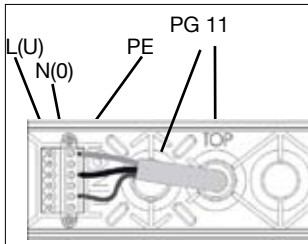

Fig. 5
After fixing the quick mounting plate in accordance with the respective instructions, the mains connection (L (U), N (0), PE) is to be established (fig. 5). Pay attention to a tight fit of the terminal screws! Unused cable entries are left with their locking plug fitted (IP protection).